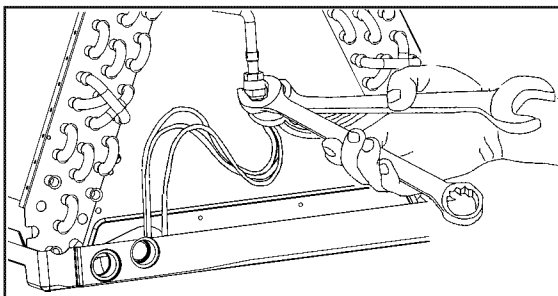

Figure 6. Wrenches on Distributor Body and Assembly Nut
1. Loosen the distributor body halves by applying two wrenches and squeezing them together as shown in Figure 6, to turn the assembly nut counterclockwise.